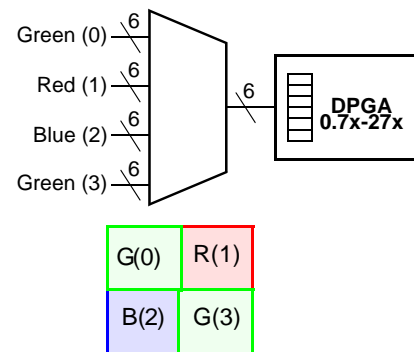

Figure 14. Color Gain Register Selection
The sensor produces three primary color outputs, Red, Green and Blue. These are monochrome signals that represent luminance values in each of the primary colors. When added in equal amounts they mix to make neutral color. White balancing is a technique where the gain coefficients of the green(0), red, blue, and green(3) pixels comprising the Bayer pattern (see Figure 14.) are set so as to equalize their outputs for neutral color scenes. Since the sensitivity of the two green pixels in the Bayer pattern may not be equal, an individual color gain register is provided for each component of the Bayer pattern.